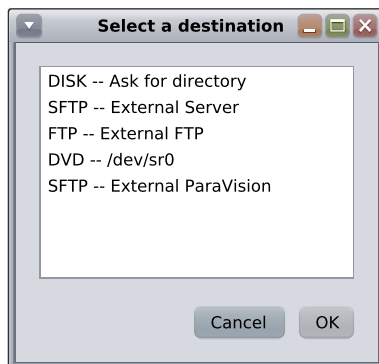

Figure 1.397: Select Archive/Transfer Destination
- 3. If a default Archive or Transfer destination (see Chapter Default Archive/Transfer Destination [▶ 436]) is not configured a dialog requesting the Archive or Transfer destination opens (see Figure 1.397 [▶ 433]).